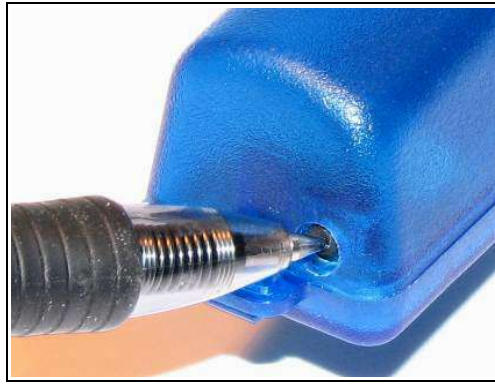

Figure 9: Starting the X16-1D
- Step 6: Press the on/off button located at the rear of the enclosure to initiate data recording, (see Figure 9). Logging will start about 3-5 seconds after pressing the button. The red LED will blink as the configuration file is accessed. If the time.txt file is present, the RTC is initialized with the time written in the file. Then, the blue LED will begin to blink at a 1 second interval indicating the system is operating. The red LED will blink periodically as data is written to the microSD card.